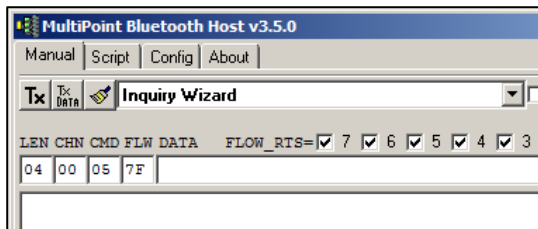

Figure 47: Select Inquiry Wizard
- From the drop-down menu, select **Inquiry Wizard** (Figure 47).